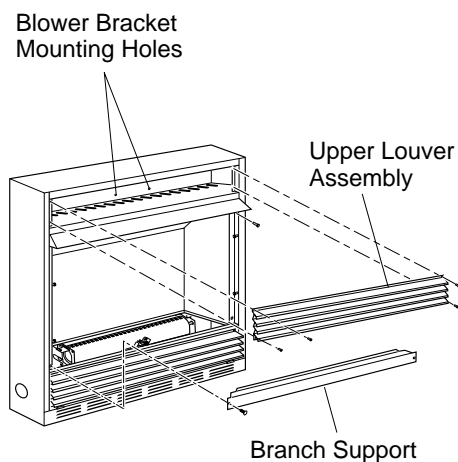
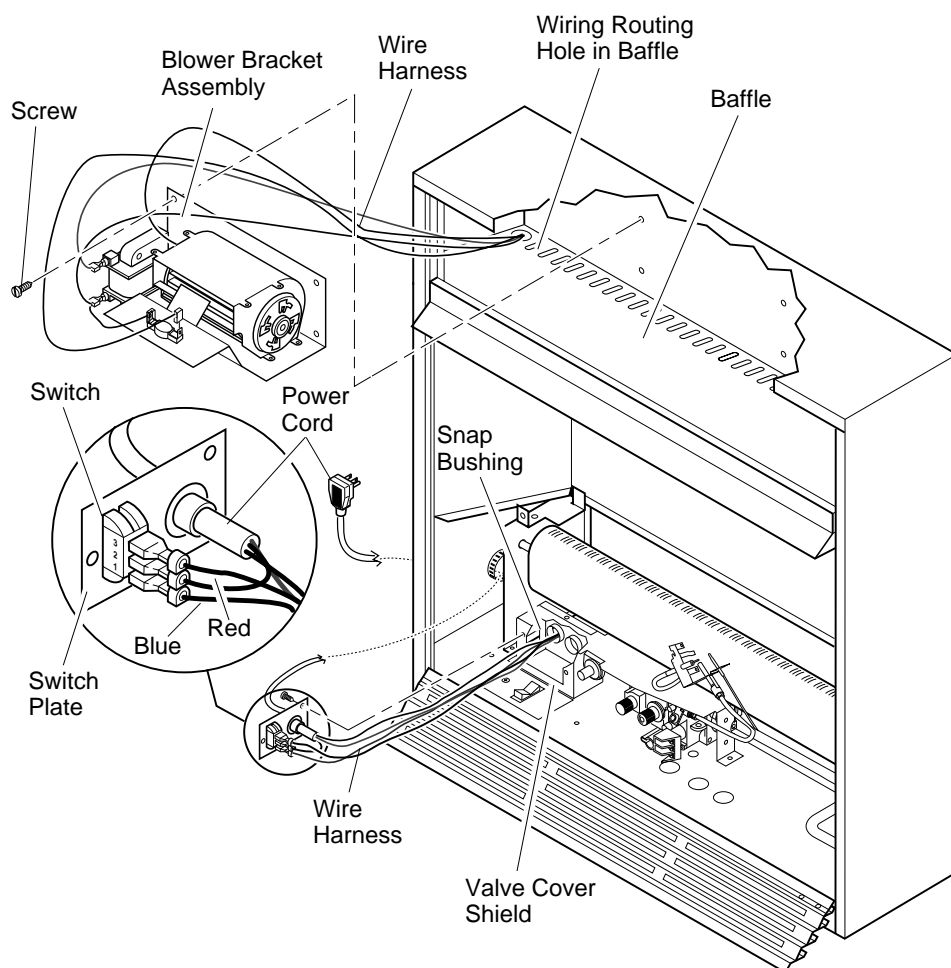
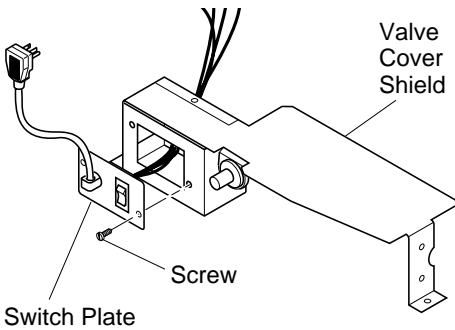

Figure 15 - Removing Upper Louver Assembly and Branch Support
Figure 16 - Installing Blower Bracket Assembly
Figure 17 - Installing Switch Plate to Valve Cover Shield
2. Remove 2 screws from each side of branch support and pull branch support out (see Figure 15).
3. Remove 4 brass-plated screws from louver assembly (see Figure 15). Save these screws.
3. Note the wire locations on back of AUTO/OFF/ON switch. The terminals on back of switch are numbered 1, 2, and 3. Carefully remove red wire from terminal 3 and blue wire from terminal 1. Black wire can remain on middle terminal 2 (see figure 16).
5. In top of the heater cabinet, locate the four mounting holes on the outer casing. Align these four holes with those on the blower bracket assembly. Attach blower bracket assembly to the outer casing with 4 #10 screws provided (see Figure 16).
6. Route the wire harness through the hole in left side of baffle. Pull wire harness through lower opening on the side of the valve shield. (see Figure 16).
7. Insert the 4 wire harness into one of the round holes in the rear of the valve cover shield and through the rectangular hole in the front of shield (see figure 16).
9. Install the switch plate on the valve cover shield with 2 #10 screws provided (see Figure 17). Route power cord out of the cabinet by inserting it through the bushing on the outer casing (see Figure 16, page 11). Plug fan kit into 120-Volt grounded power supply and test operation. *Note:* When switch is in the AUTO position, the fan will start after the heater has run for a few moments. The fan will continue to run for several moments after the heater has been turned off. When switch is in the ON position, the fan will run until turned to OFF. Reinstall upper louver assembly (see Figure 15, page 11) and twig support. Close lower louver door.
6. Reinstall upper louver assembly (see Figure 15, page 11) and close lower louver.